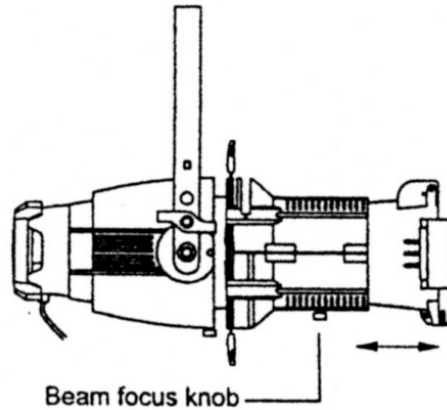

Fig. 7
1. Loosen the beam focus knob located under the barrel (Fig. 7).